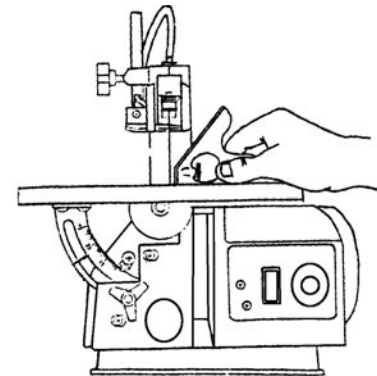

Figure 5
2. Place a small square on the table next to the blade to check if the table is 90° to the blade, see Fig.5. If an adjustment is needed, raise or lower the table until it is 90° to the blade and securely tighten the table lock knob.